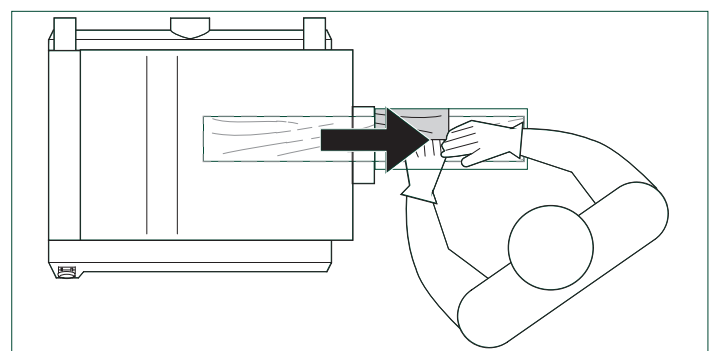

FIG.17
- to remove the workpiece from the machine, position yourself offset to one side of the outfeed opening.(Fig.17)